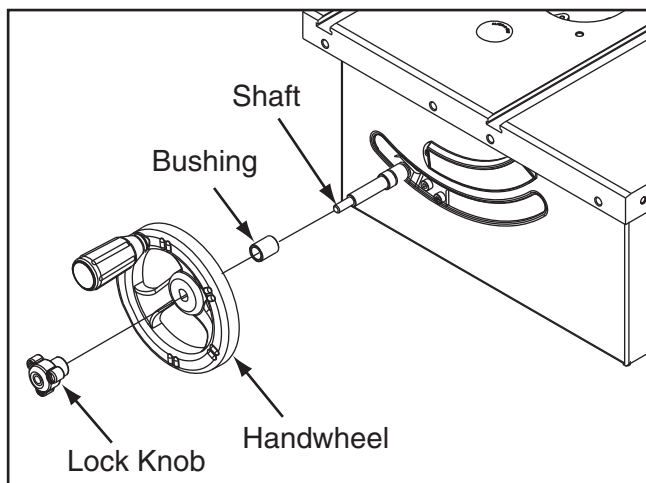

Figure 14. Installing blade height handwheel components.
5. Insert the bushing onto the front handwheel shaft (see **Figure 14**), slide the flat on the blade height handwheel onto the flat of the shaft, then thread the lock knob on until you feel slight resistance.